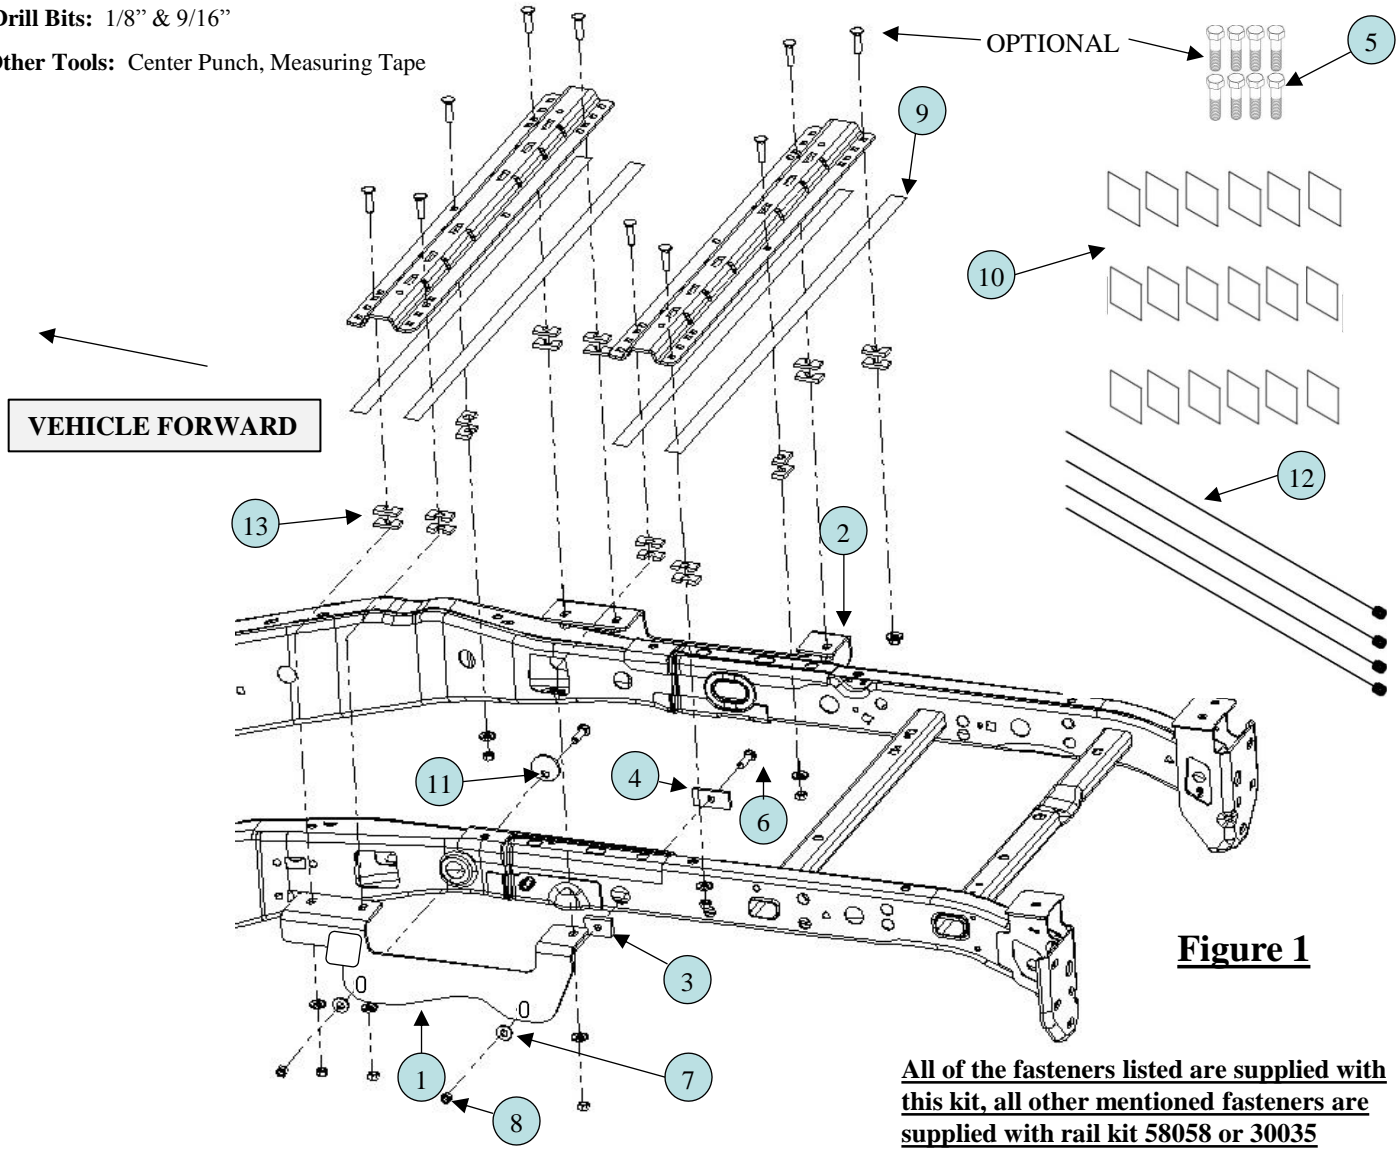

Figure 1
2. Place the galvanic isolator strips (9) on the bottom surface of each rail to protect aluminum truck bed as shown in Figure 1.
5. Loosely install the frame brackets (1) & (2) using the appropriate hardware and hand tighten. (See Figure 1)
- Starting with the rear mounting hole first, insert the coiled end of the pull wire (12) through the 1-1/2" diameter mounting hole on the side of the truck frame and out through the large oval access hole on the inside of the frame.
- Slide the block (4) over the coiled end of the pull wire and attach the 1/2" x 2" carriage bolt (6).
- With the other end of the pull wire (12), thread it through the 1/2" thick block (3) then through the back side of the frame bracket (1) & (2) and gently pull on the end of the pull wire (12) so that the hardware moves through the frame and into position in the frame bracket.
- Install the 1/2" conical washer (7) and 1/2" nut (8) and hand tighten.
- For the forward mounting hole, insert the coiled end of the pull wire (12) through the 1-1/2" diameter mounting hole on the side of the truck frame and out through the large oval access hole on the inside of the frame.
- Slide the circle block (11) over the coiled end of the pull wire and attach the 1/2" x 2" carriage bolt(6).
Note: It is important that square hole in the circle block (11) sits at the bottom of the mounting hole on the frame as shown in Figure 1. The circle block (11) should fit inside embossment in truck frame.
- With the other end of the pull wire (12), thread it through the back side of the frame bracket (1) & (2) and gently pull on the end of the pull wire (12) so that the hardware moves through the frame and into position in the frame bracket.
6. Check that the 1/8" drilled holes from step 4 align with the slots of the frame bracket (1) & (2).